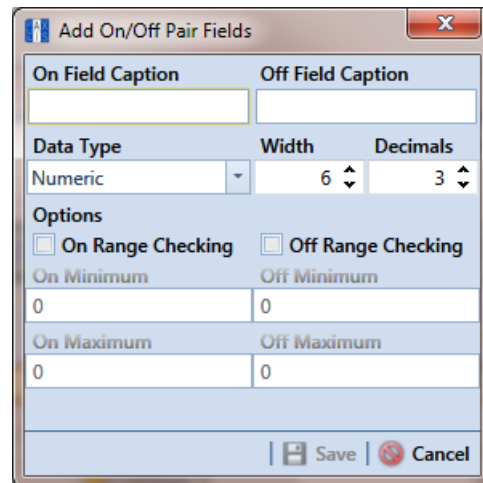

Figure 3-60. Add On/Off Pair Fields
- 4 Click  **On/Off Pair** in the toolbar to open the *Add On/Off Pair Fields* dialog box (Figure 3-60).
- 7 If you selected the *Numeric* data type earlier in **step 6** (page 111), set the length of the field using the **Width** and **Decimal** fields (Figure 3-60, page 111).